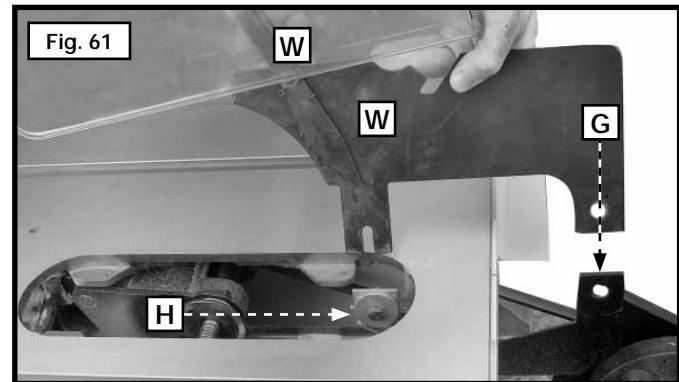

Fig. 61
**CAUTION** For certain cutting operations (dadoing and moulding) where the workpiece is not cut completely through, the blade guard and splitter assembly cannot be used. Loosen screws at (G) and (H) Fig. 61. Lift and remove the blade guard and splitter assembly (W).